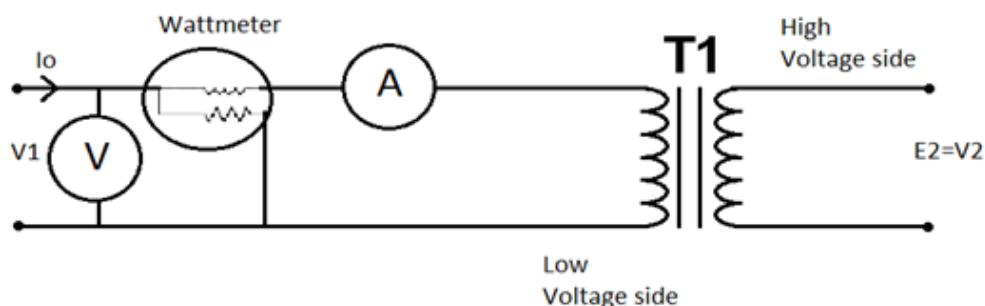

Figure 4.5. Voltage regulation
The circuit diagram for finding Voltage Regulation is shown in Figure 4.5
- 1) Using your Transformer Trainer connect the circuit as shown in Figure 4.5. Turn on the power supply and adjust for exactly rated V_{ac} as indicated by volt-meter V_1 .
1. Using your Transformer Trainer connect the circuit as shown in Figure 4.5.